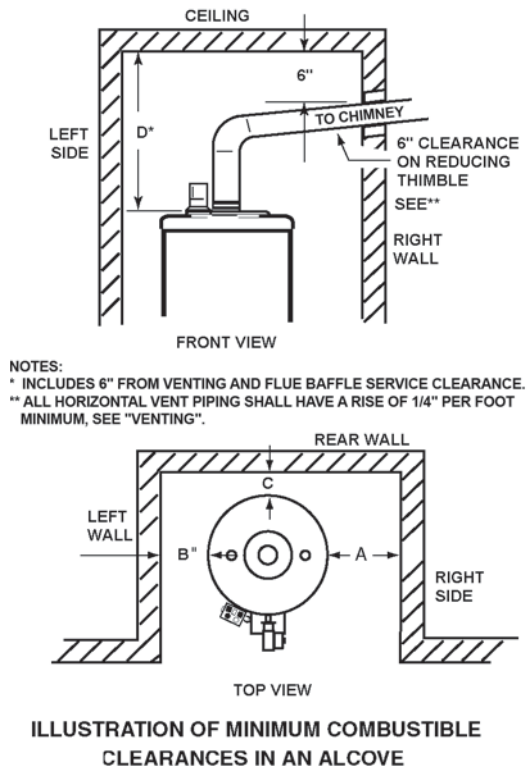

FIGURE 6.
4. Carefully plan the place where you are going to put the water heater. Correct combustion, vent action, and vent pipe installation are very important in preventing death from possible carbon monoxide poisoning and fires, see Figures 6, 11 and 12. Examine the location to ensure the water heater complies with the “Locating the New Water Heater” section in this manual.
This water heater is approved for installation on combustible flooring (with NSF Leg Kit #9003425205) in an alcove when the minimum clearance from any combustible construction is as indicated in Figure 6 and Table 3.